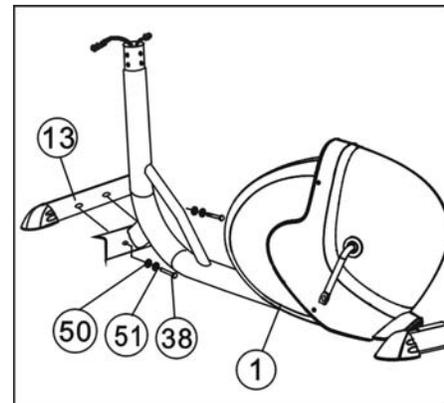

Figure 2
Attach the Front stabilizer (13) to the Main Frame (1) with two sets of M8x20 Bolts (38), Φ 8 spring washers (51), and Φ 8 Flat washers (50). (Refer figure 2)